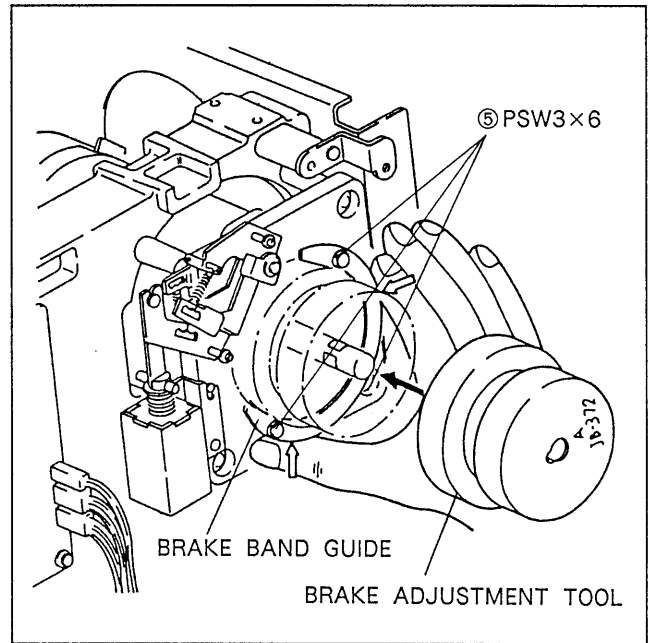

Fig. 6-6-11. Brake Band Guide Position Adjustment
15. Turn the side of the prepared brake adjustment tool, that is marked "A" "JB-372" to the front and mount the tool onto the reel motor shaft as shown in Fig. 6-6-11.
16. Secure the brake band guide properly using the three screws ⑤ while pressing the brake band guide lightly against the brake adjustment tool.